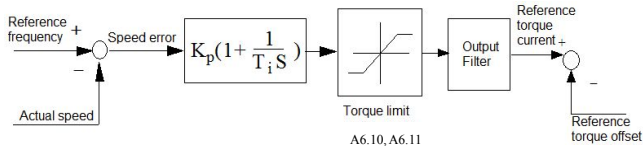

Fig.6-13 Speed regulator
1.The structure of speed regulator (ASR) is shown in Fig.6-13.In the figure, K_P is proportional gain P. T_I is integral time I.